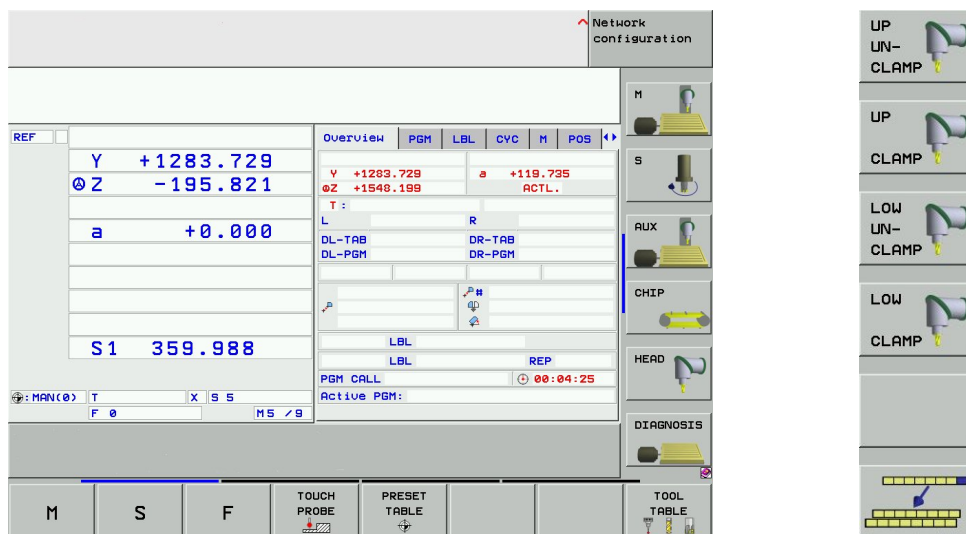

Fig. 23: Main Menu → HEAD
2. Head → UP UNCLAMP, Fig.23 (REFER TO)
4. HEAD → UP CLAMP. REFER TO Fig.23.
Manual rotation for Low head is similar way to up head rotation(6.3), refer to Fig.23~Fig.25.